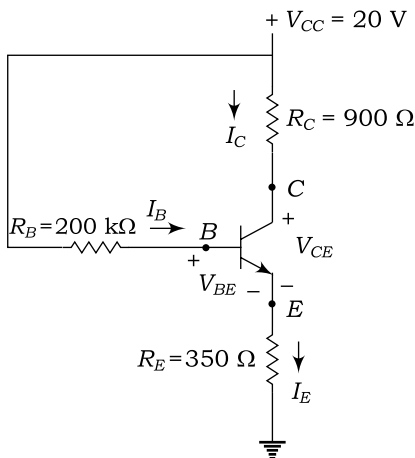

Fig. 2.117
44. Figure 2.117 shows the fixed bias with emitter feedback circuit. Determine the base current, collector current, collector to emitter voltage and stability factor of a biasing circuit. Assume $V_{BE} = 0.68 \text{ V}$ and $\beta = 55$.